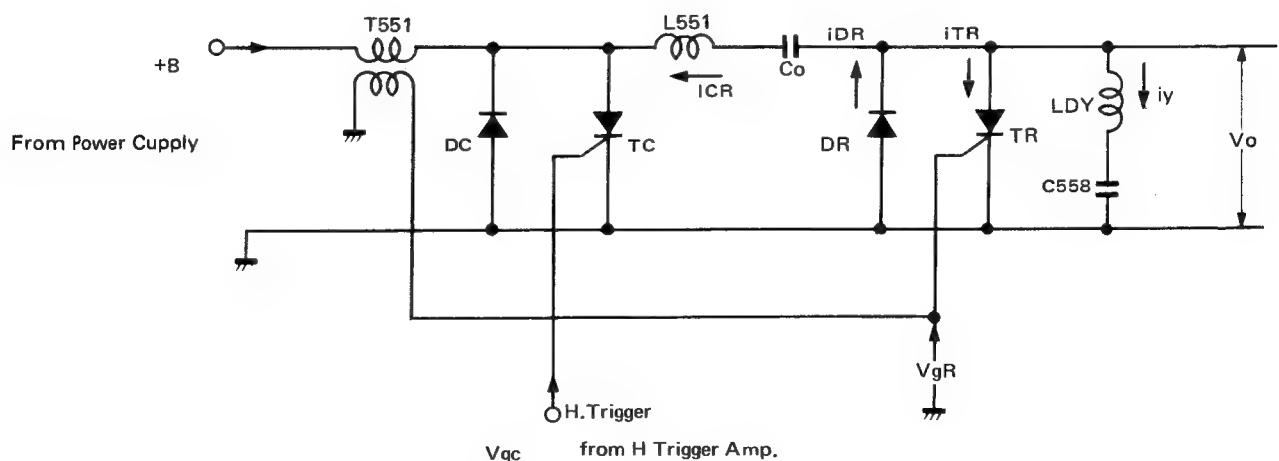

Fig. 47 Abb. 47
1. Horizontal Deflection Output Circuit (See Fig. 47, 48)
The operation of the output circuit using high speed thyristors is explained by the equivalent circuit shown in fig. 47.
A trigger pulse is supplied to T_C with $t = t_6$ to switch it ON. This causes C_O to discharge via the $T_R \rightarrow C_O \rightarrow L_{551} \rightarrow T_C$ circuit so that i_{CR} flows as shown in the figure 47. The sum of i_y and i_{CR} flows through T_R and, since its direction is inverse, T_R is cut off when $t = t_1$. However, forward bias is applied to D_R which has been cut off and D_R is switched ON so that i_y and i_{CR} are kept flowing through D_R . Since the time constant of L_{551} and C_O is smaller than that of L_{DY} and C_{558} , i_{CR} varies in a sine sinusoidal manner. Thus i_y becomes equal to i_{CR} with $t = t_2$ so that D_R cuts off.
(siehe Bild 47, 48)